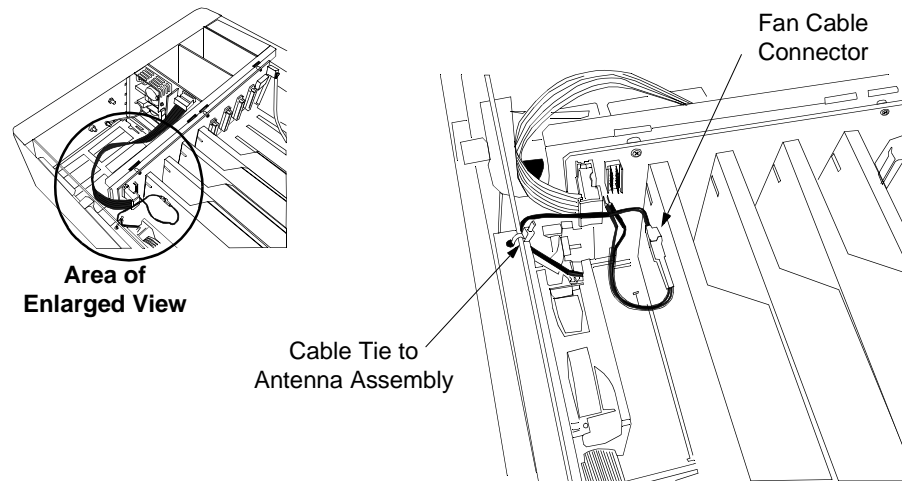

Figure 7-7 Disconnecting the Fan Cable
- Step 1.** Disconnect the fan cable at the connector on the cable to the receiver backplane. See Figure 7-7.